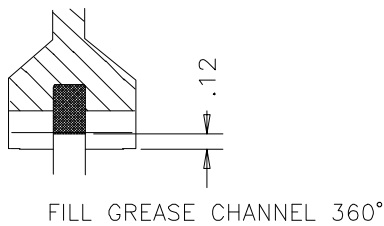

Fig. 3
2.2.6 Pre-fill the grease channel in the friction disc splines (if applicable) with MOLUB-ALLOY® OG Heavy - or equivalent - grease, as shown on Figure 3.